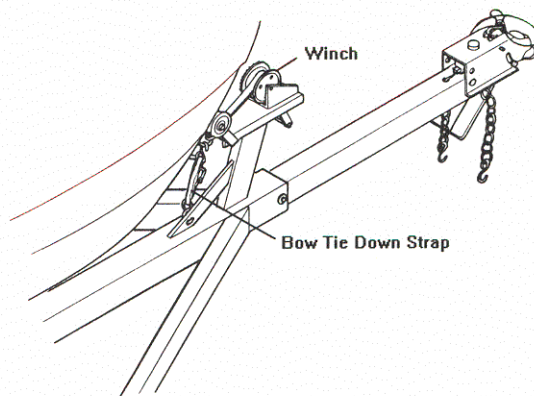

Figure P10: Bow Tie Down Strap
1. Bow Tie-downs: A bow stop to hold the front of your boat in place is located on the winch stand. It should be positioned so that the winch line pulls straight and is parallel to the trailer frame. A separate tie-down should then be attached to hold the boat. See Figure P10.